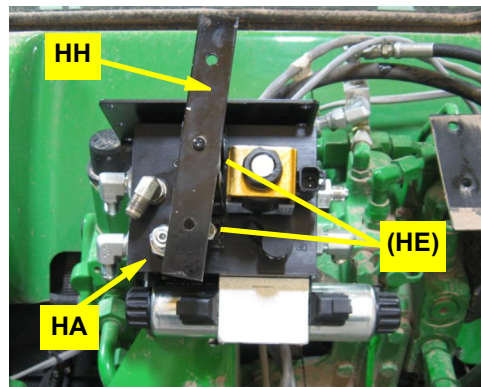

Figure 2b: Installed hydraulic steering block and new SMV sign bracket
- b. Using hardware **HE** (not visible) mount (i) the new SMV bracket **HH** and (ii) the hydraulic steering block **HA** against the original SMV bracket. Install the hydraulic block with its left/right solenoids downwards (Figure 2b).